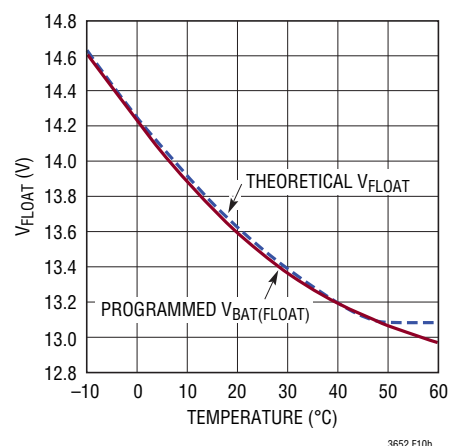

Figure 10. Thermistor-Based Temperature Compensation Network Programs V_{FLOAT} to Closely Match Ideal Lead-Acid Float Charge Voltage for 6-Cell Charger
While the circuit in Figure 9 creates a linear temperature characteristic that follows a typical $-3.3\text{mV}/^{\circ}\text{C}$ per cell lead-acid specification, the theoretical float charge voltage characteristic is slightly nonlinear. This nonlinear characteristic follows the relation $V_{\text{FLOAT}(1\text{-CELL})} = 4 \times 10^{-5} (T^2) - 6 \times 10^{-3} (T) + 2.375$ (with a 2.18V minimum), where T = temperature in °C. A thermistor-based network can be used to approximate the nonlinear ideal temperature characteristic across a reasonable operating range, as shown in Figure 10.